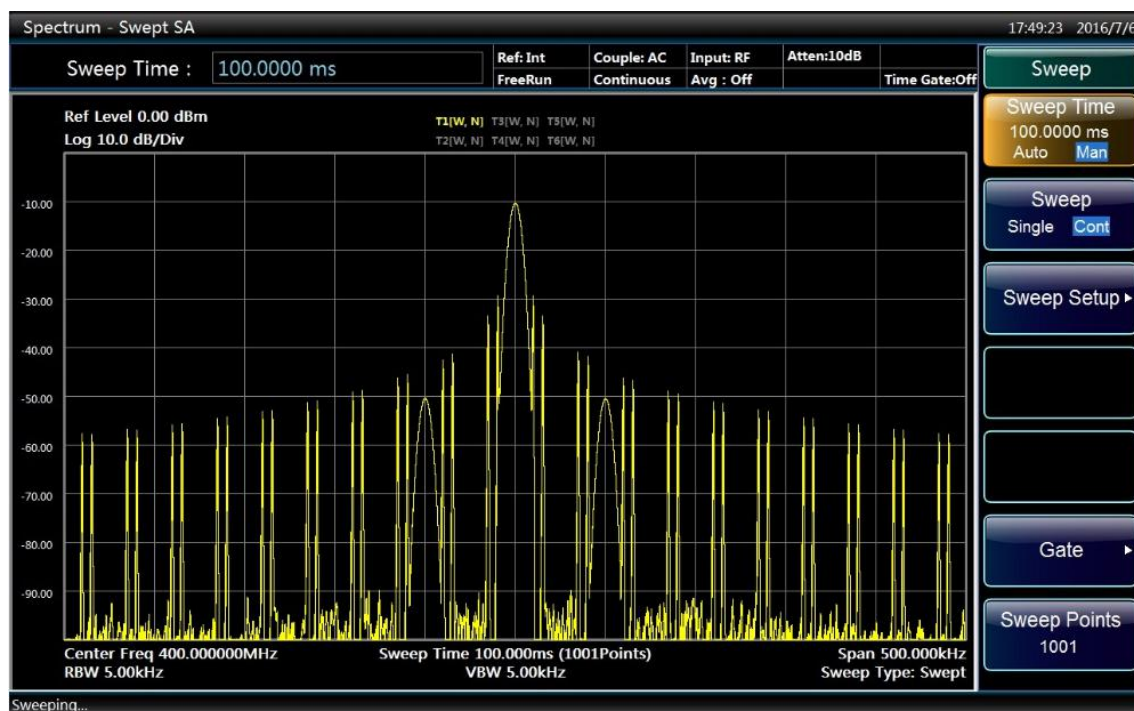

Fig. 4.57 Observed signal spectrum without the Gate
- Mobile signal refers to pulse signal, which can be shielded by the Gate, and the original FM signal will be generated. The spiked period is 5ms (it is the same as the period of the pulse signal) by the judgment of the difference frequency scale, as shown in Fig. 4.57.